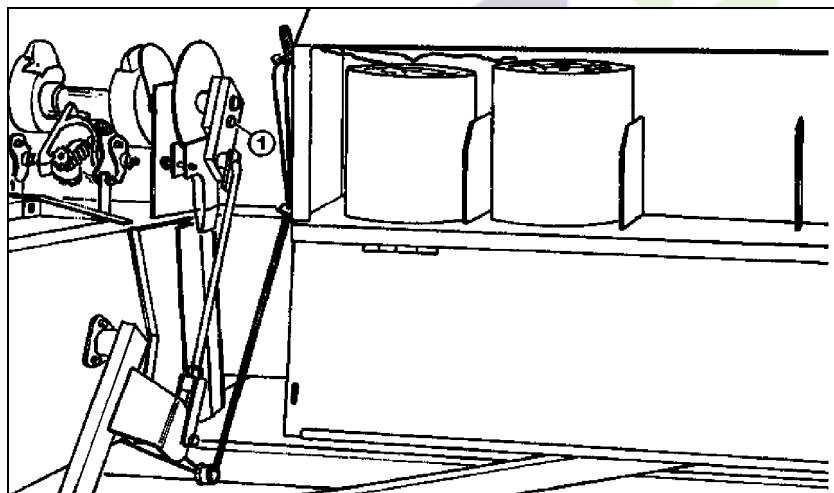
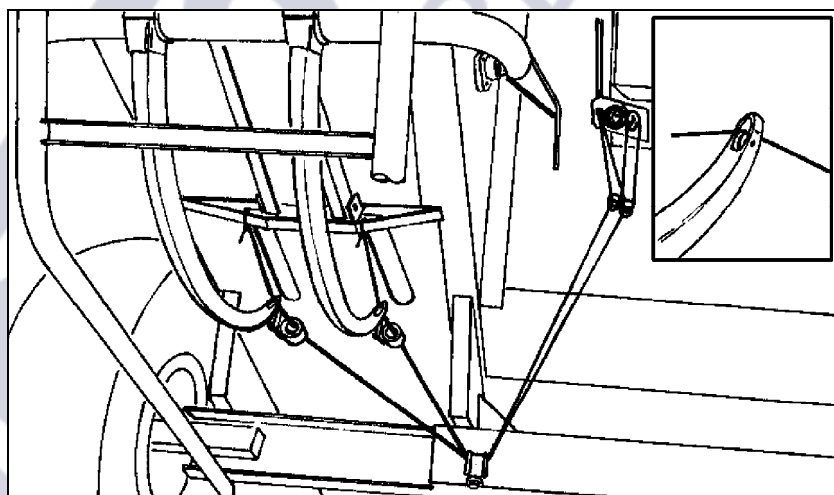

Fig. 2
Fig. 3
2. Thread the string as indicated in Fig. 2 and Fig. 3.
3. Tie the ends of the string to the bottom cross member of the binding chamber (Fig. 3).